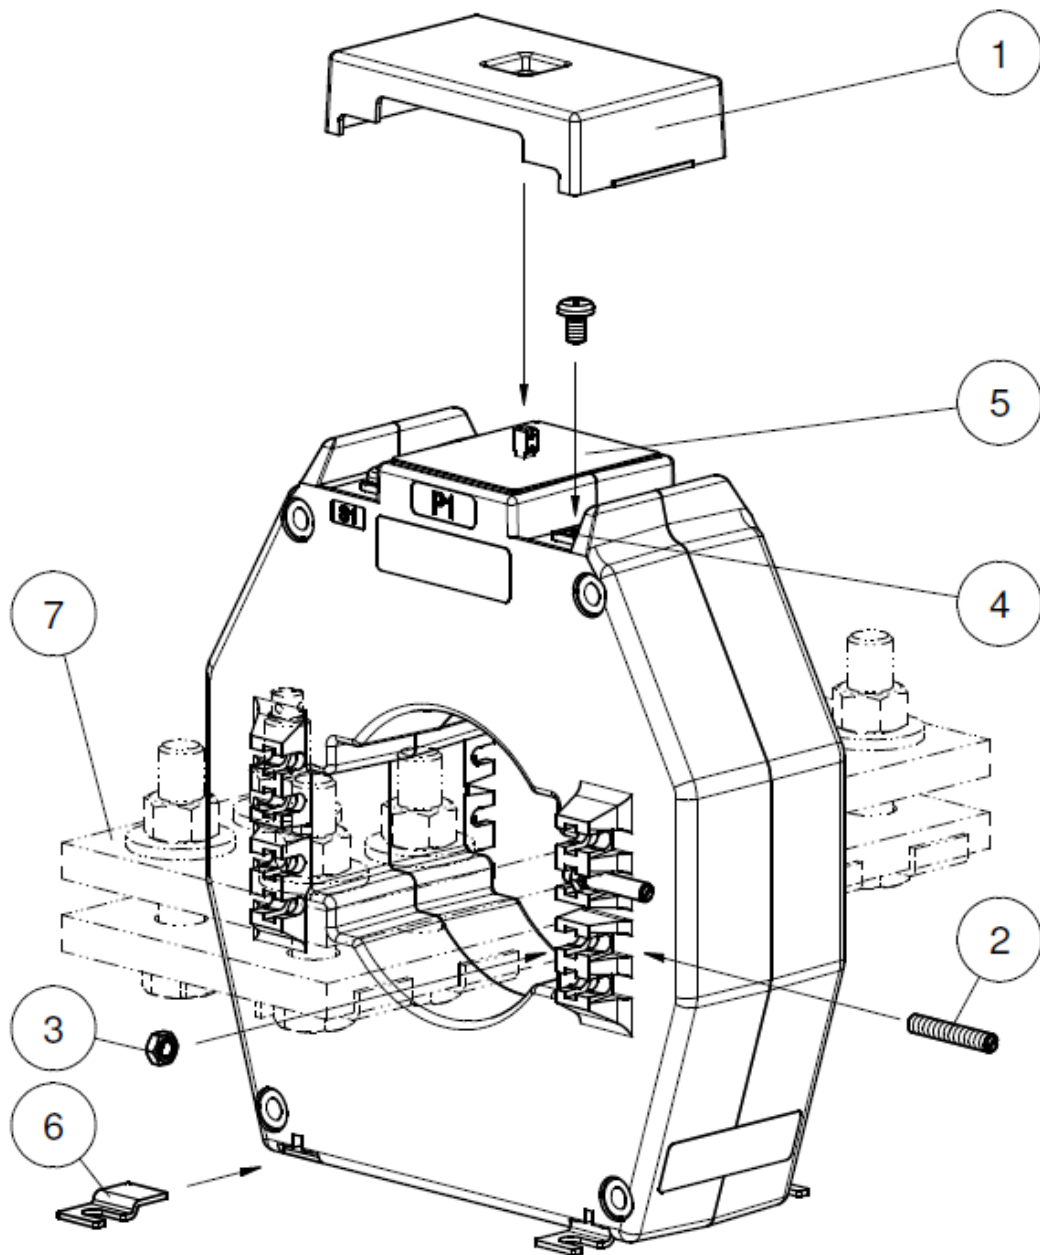

Figure 2.41: LMG-Z542 Drawing 3D
Description of Figure 2.41:
- 2 Secondary terminals, max. tightening torque see Figure 2.41
- 5 Primary conductor fixture, max. tightening torque see Figure 2.41